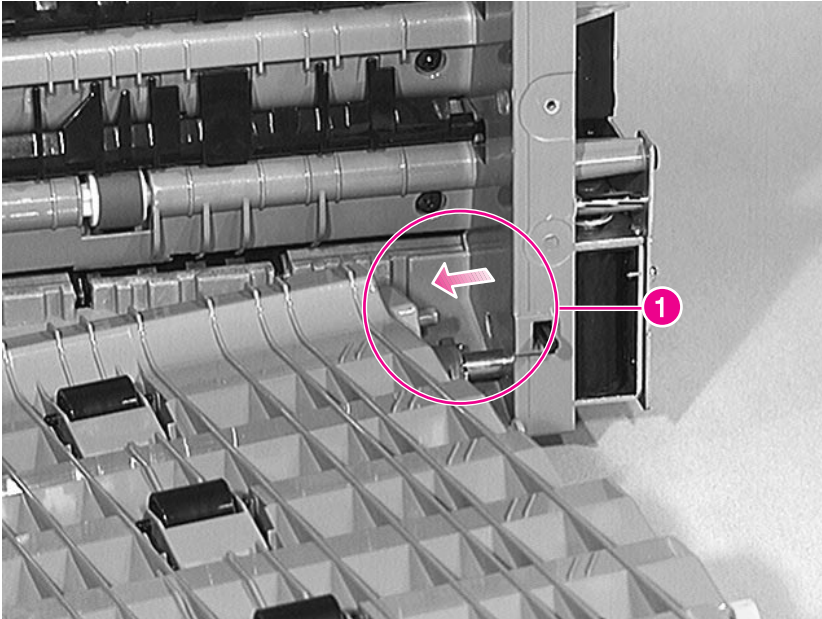

Figure 6-130 Right Door Assembly (Paper Path Cover) (4 of 5)
- 3 Release the plastic pin on the right end, and remove the paper path cover as shown in figure 6-130 (callout 1).